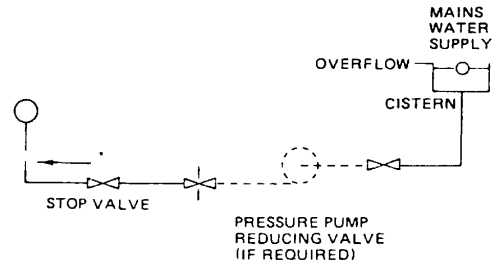

Figure 6 FULLY PUMPED SEALED SYSTEM
- ii) Where access to a make-up vessel would be difficult by using the mains top up method or a remote automatic pressurisation and make-up unit as illustrated in Fig 6 METHODS 1 & 2.
The system shall be fitted with a filling point at low level which incorporates a stop valve to BS1010 and a double check valve (approved by the National Water Council) to be fitted in this order from the system mains. Refer to Fig 6 METHOD 1.
The system can be filled using a sealed system filler pump with a break tank or by any other method approved by the local Water Authority. Refer to FIG 6 and BS6798 1987. Remove pump and flush out the system thoroughly with cold water. Re-fit the pump. Fill and vent the system until the pressure gauge registers 1.5 bar (22.5lbf/in2), examine for leaks. Raise the pressure until the safety valve lifts. This should occur within ± 0.3 bar of the pre-set lift pressure of 3 bar. Release water to attain the correct cold fill pressure.